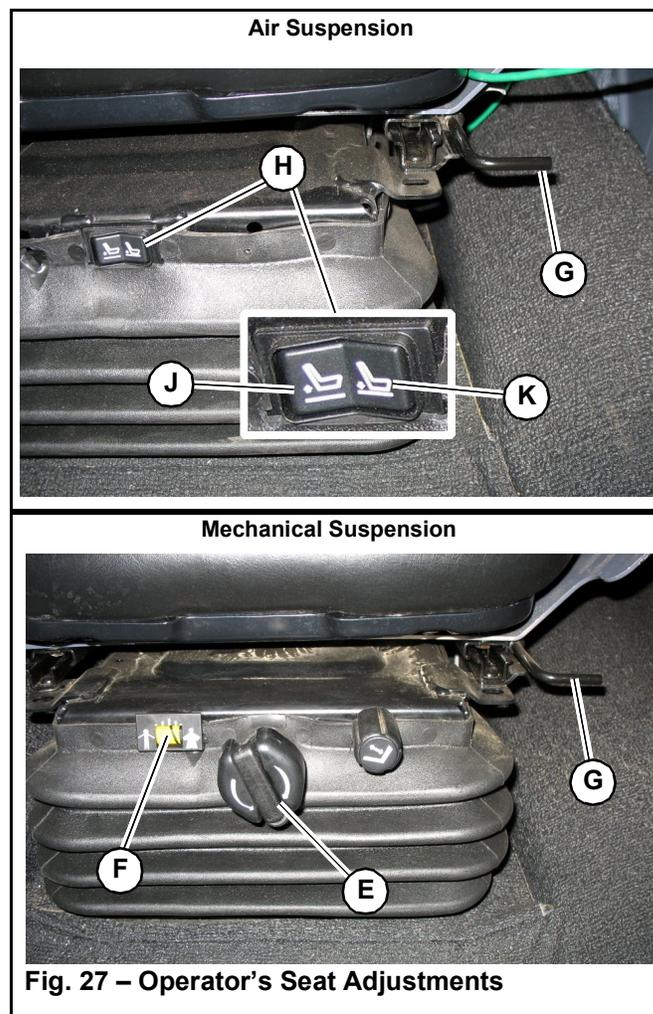

Fig. 27 – Operator's Seat Adjustments
- Forward and back horizontal position (G, Fig. 27).
- Up and down vertical height/weight suspension (E).
While sitting in the operator's seat, pull up on handle (G, Fig. 27). Move the seat and control lever base forward or back as desired. Release bar (G) when the seat is in the desired position. Make sure the seat is locked in position after adjusting.
While sitting in the operator's seat, turn knob (E, Fig. 27) as necessary to center the black line on the yellow background in indicator (F).